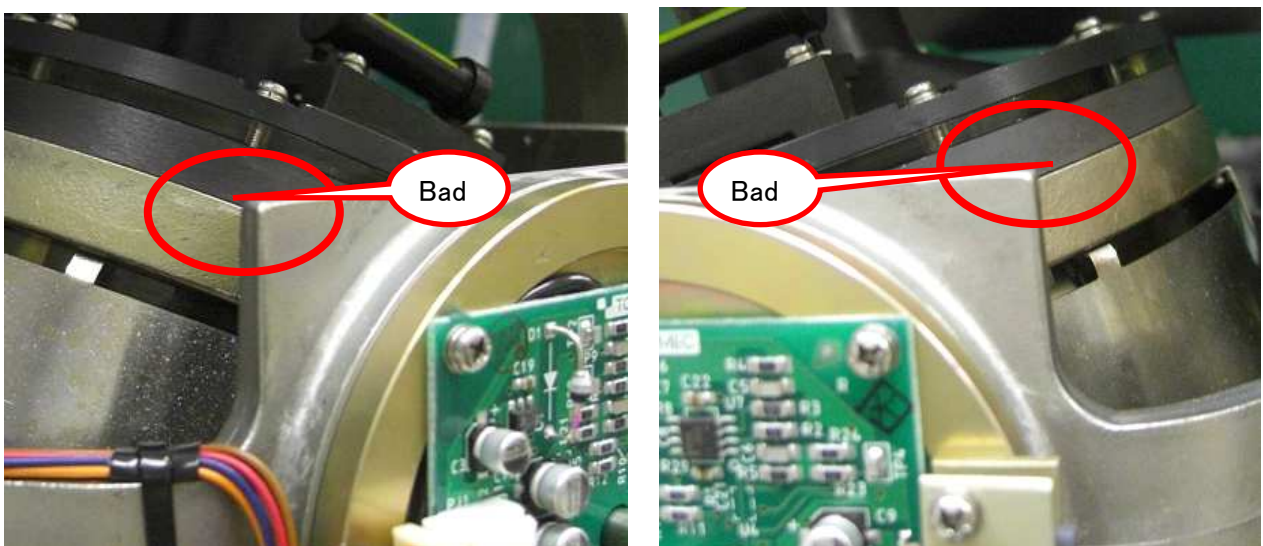

Fig. 2-25 Bad alignment of sensitive element at the beginning of leveling mode
(4) Example : Bad condition
- Sensitive element inclination angle is bigger as shown in Fig. 2-25.
(5) In case of bad condition(alignment) shown in Fig. 2-25.